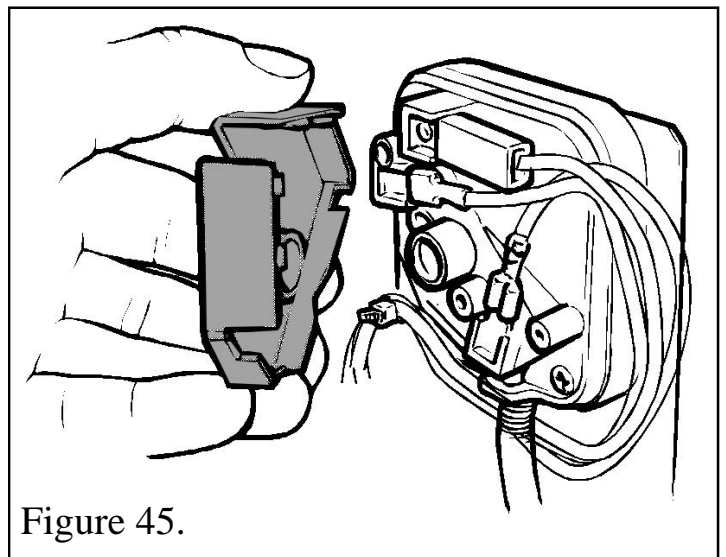

Figure 45.
- Remove the cover from the pressure switch to gain access (See figure 45).